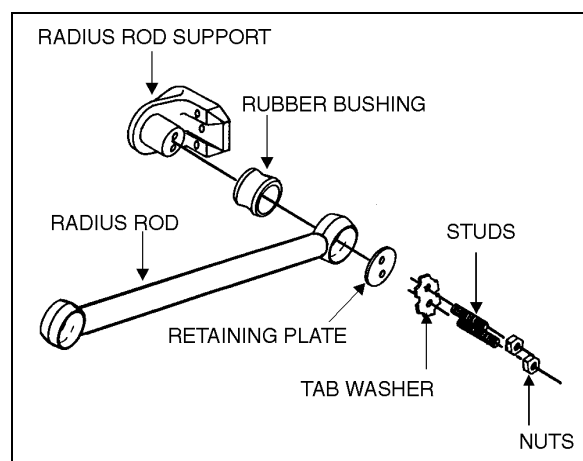

FIGURE 5: TYPICAL RADIUS ROD SETUP
1. Remove nuts and washers from shock absorbers on upper and lower mounting pins, taking care to identify the inner and outer washers to ease reinstallation. Refer to figure 5 for details.
1. Flatten the tab washer which secures the two retaining nuts (or bolts), and then unscrew the nuts (or bolts) at each extremity of the radius rod (Fig. 5).